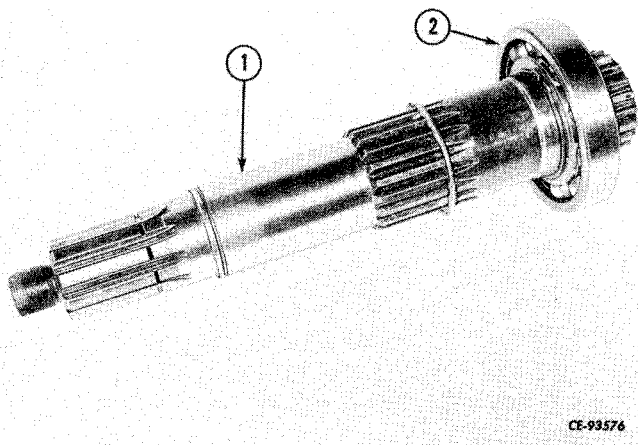

Figure 4-49
Inspect the output shaft (1, Fig. 4-49) and bearing (2) for wear or damage. If replacement of either part is necessary, press the bearing off the shaft.